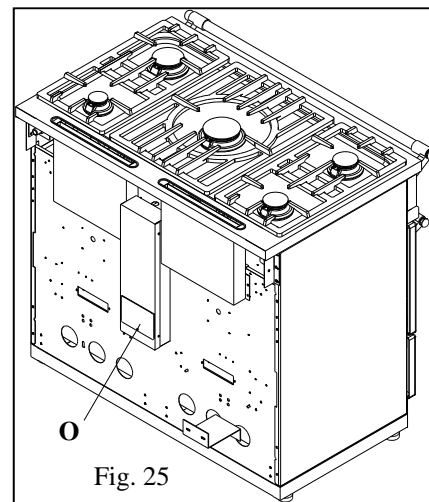
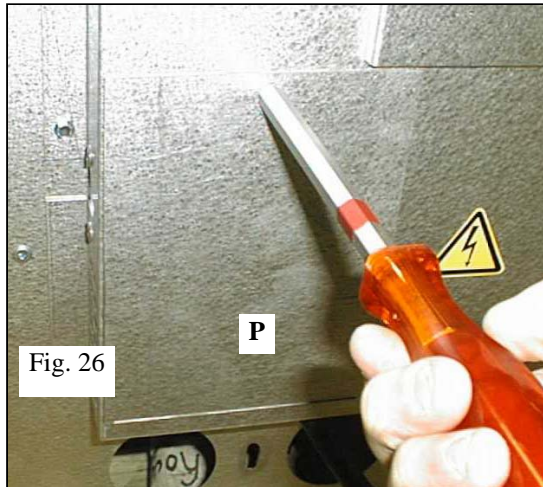

Fig. 25
Fig. 26
- Remove access door **O** (Figure 25, gas oven range) or **P** (Figure 26, gas and electric range).